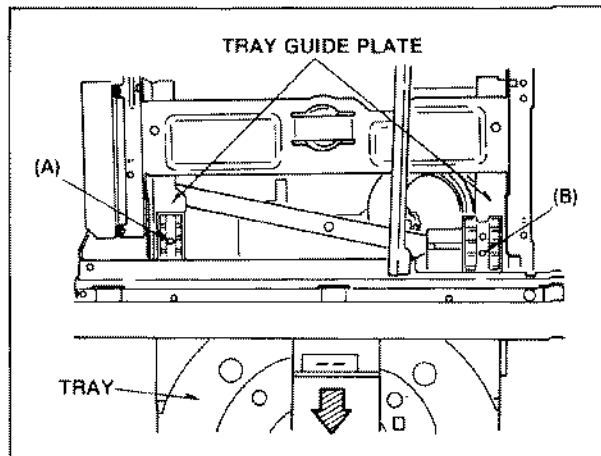

Fig. R1
3. Press the Tray Stopper (Hole A and B) to unlock the locking tab on the Tray Guide Plate by using Driver and then remove Tray Plate as shown in Fig. R1.
7. Confirm that both Tray stopper Tabs are locked as shown in Fig R1.
1. Remove the Tray unit (Refer to Fig. R1)